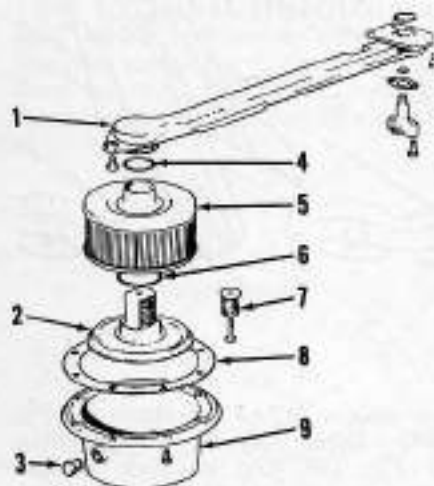

Fig. 195—Exploded view of hydraulic pump suction filter and cover used on 1190 and 1290 models. Model 1390 filter assembly is similar.
355. Models 1190 and 1290 have a metal screen (2—Fig. 195) equipped with a magnet (7) and renewable paper filter (5) on suction side of pump. Filter is located under transmission housing.